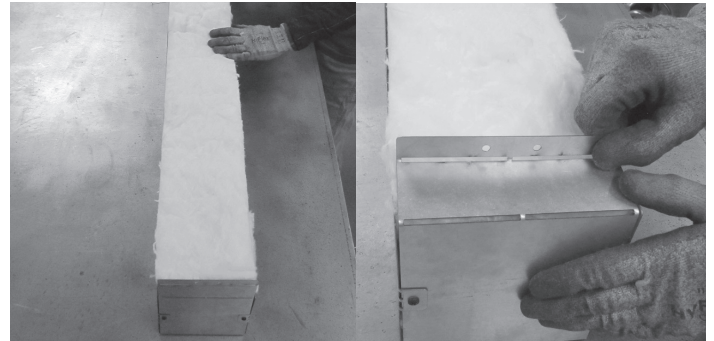

Figure 10
13. Place four (4) pieces of insulation in the top insulation box and install the box on the top of the appliance. See Figure 10 and 11.